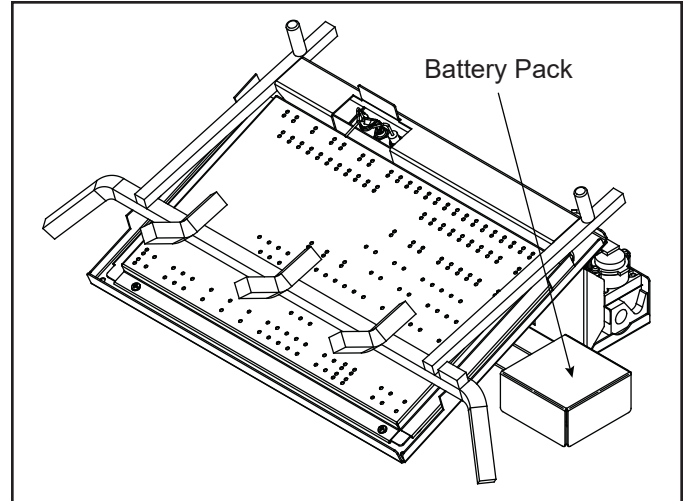

Figure 7.1 Battery Pack Location
- The Intellifire™ intermittent pilot system comes standard with a integrated battery pack that holds (2) D-size batteries and does NOT require 110-120 VAC to operate. See Figure 7.1.